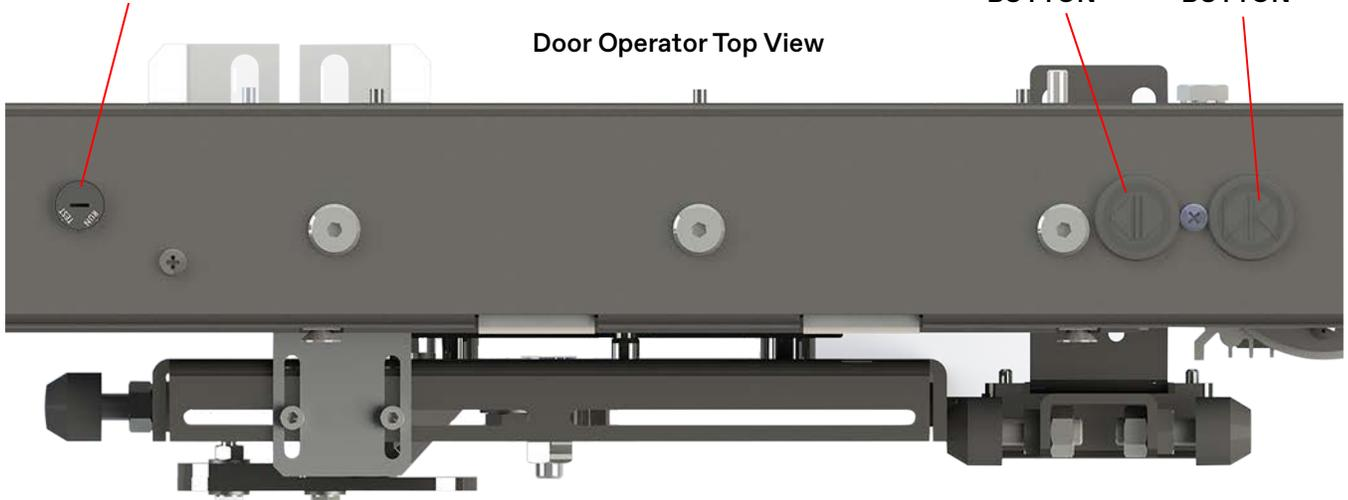

Figure 29 - LEDs and Test Buttons for Learn Door Travel
2. Power up door operator, and verify the following LEDs. See Figure 29 on page 41.